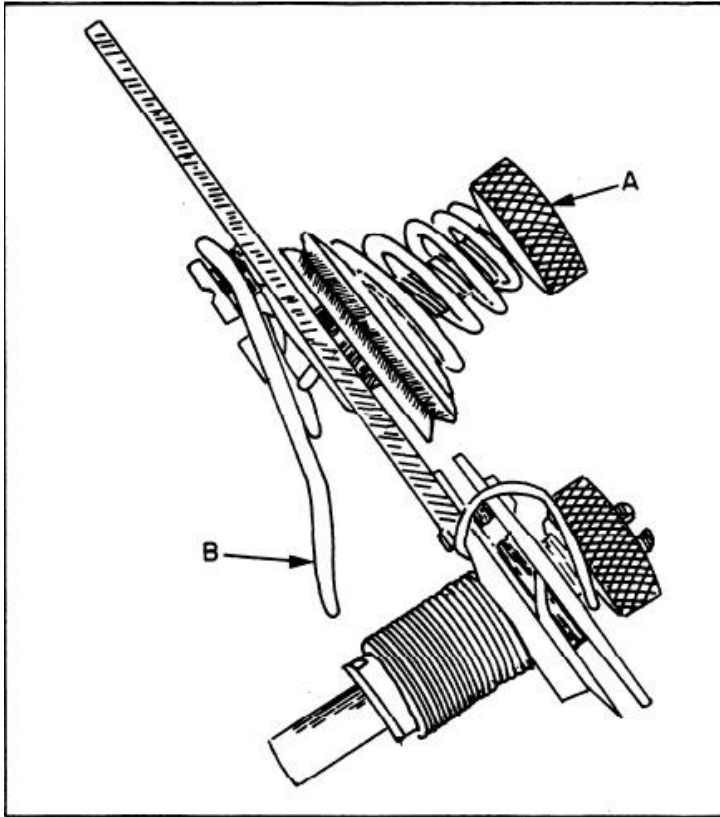

Figure 12: Upper thread unit
- (3) Pull the thread controller assembly away from the machine.
- c. Bend the thread-releasing lever (figure 12 [B]) away from the thread controller assembly to increase the amount of the release and toward the plate to decrease the tension as needed.
The thread tension will be the last adjustment required. In most cases, make the adjustment by turning the thumbnut (figure 12 [A]) on the needle thread tension disk.